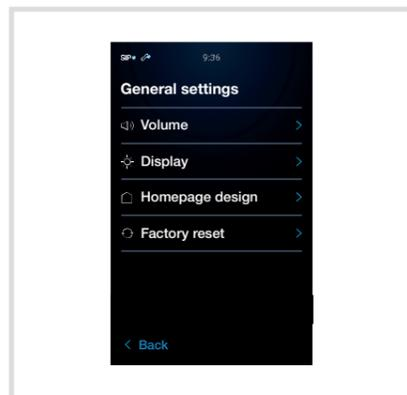

Fig. 34: General settings
- Select the **general setting** to be changed on the touch display (Figure 34) and follow the instructions on the display.